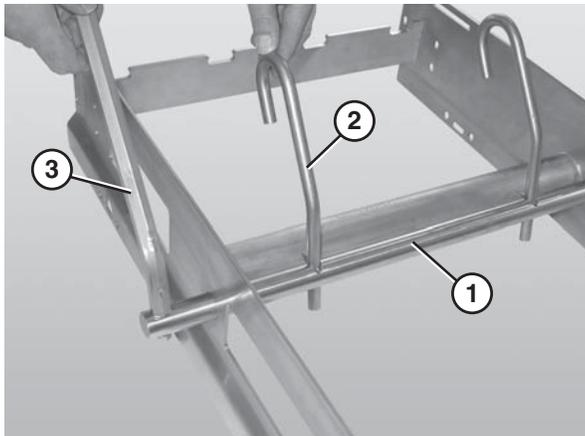

Figure 20
1. Slide the belt lift pivot bar (Figure 20, item 1) through the designated holes in the frame. The pins on the pivot bar should be located to the inside of the frame side rails.
2. Attach the lifter bars (Figure 20, item 2) to the belt lift pivot bar (Figure 20, item 1). Make sure the hooked ends of the lifter bars are facing down when resting against the frame.
3. Attach the lifter handle (Figure 20, item 3) to the belt lift pivot rod.